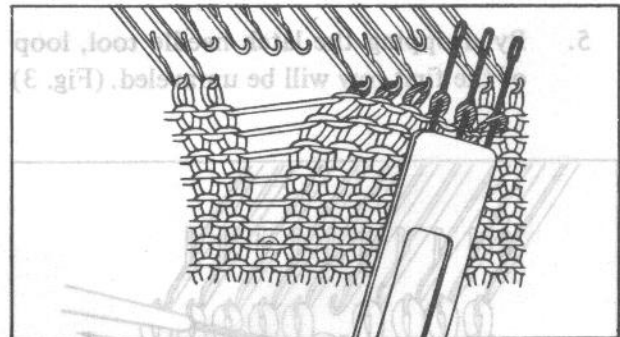

Fig. 3
3. Loops on the left transfer tool are hooked on the empty latch needles at the right. (Fig. 3)